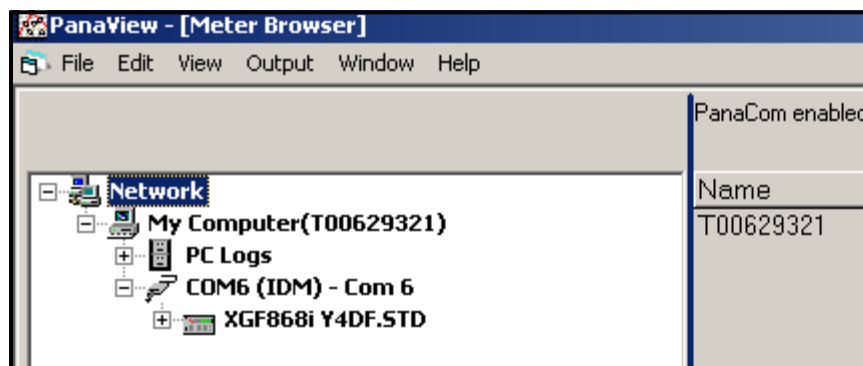

Figure 15: The Text Display Window
2. Using the *Window* menu, as described in the *PanaView User's Manual*, arrange the open windows in the desired format. For this discussion, *Figure 15 below* shows the *Text Display* window in its maximized (full-screen) size.
5. Before actual data values can be displayed in the text pane, activate one of the following data collection modes (see *Figure 15 on page 38*):